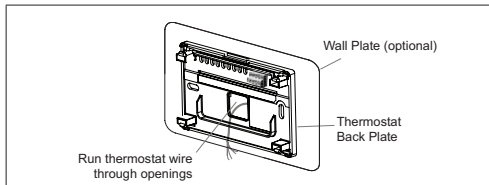

Figure 3. Route Wiring
- g. Route the CS8500 and outdoor temperature sensor (optional) wiring from wall through center openings on wall plate (use is optional) and back plate (see “Figure 3. Route Wiring” on page 6).